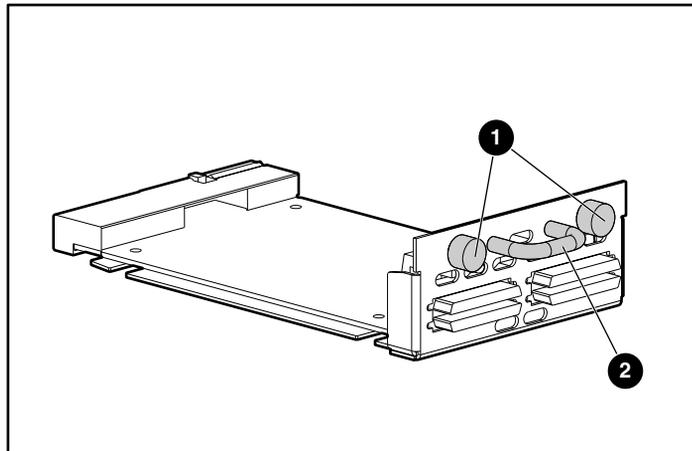
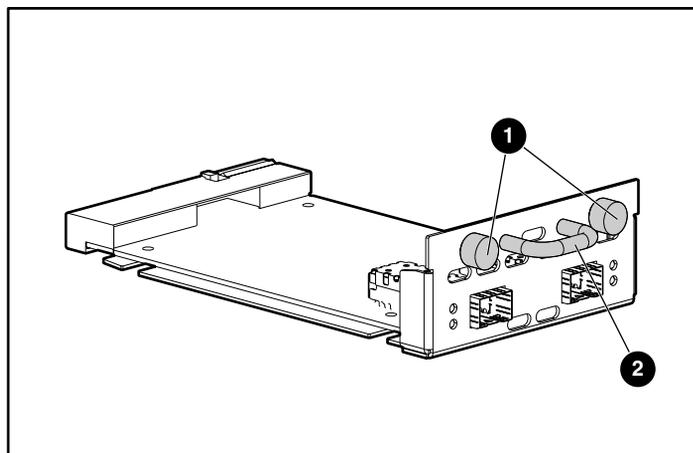

Figure 128: Thumbscrews and handle on a SCSI module
Figure 129: Thumbscrews and handle on a Fibre Channel module
Figure 128 illustrates a SCSI module and Figure 129 illustrates a Fibre Channel module.
4. To install the new module, hold the handle ❷ shown in Figure 128 or Figure 129, align the bottom plate of the module beneath the guides of the bay opening, and slide the new module into the bay opening until the outer plate of the module is flush against the back-side of the router.